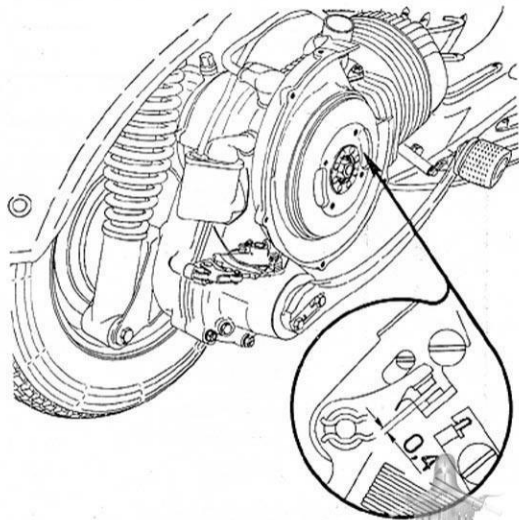

Fig. 14 - Adjustment of breaker points
5) - Clean and adjust the breaker points of the flywheel magneto, (see fig. 14), to .4 mm. gap (.015 in.).